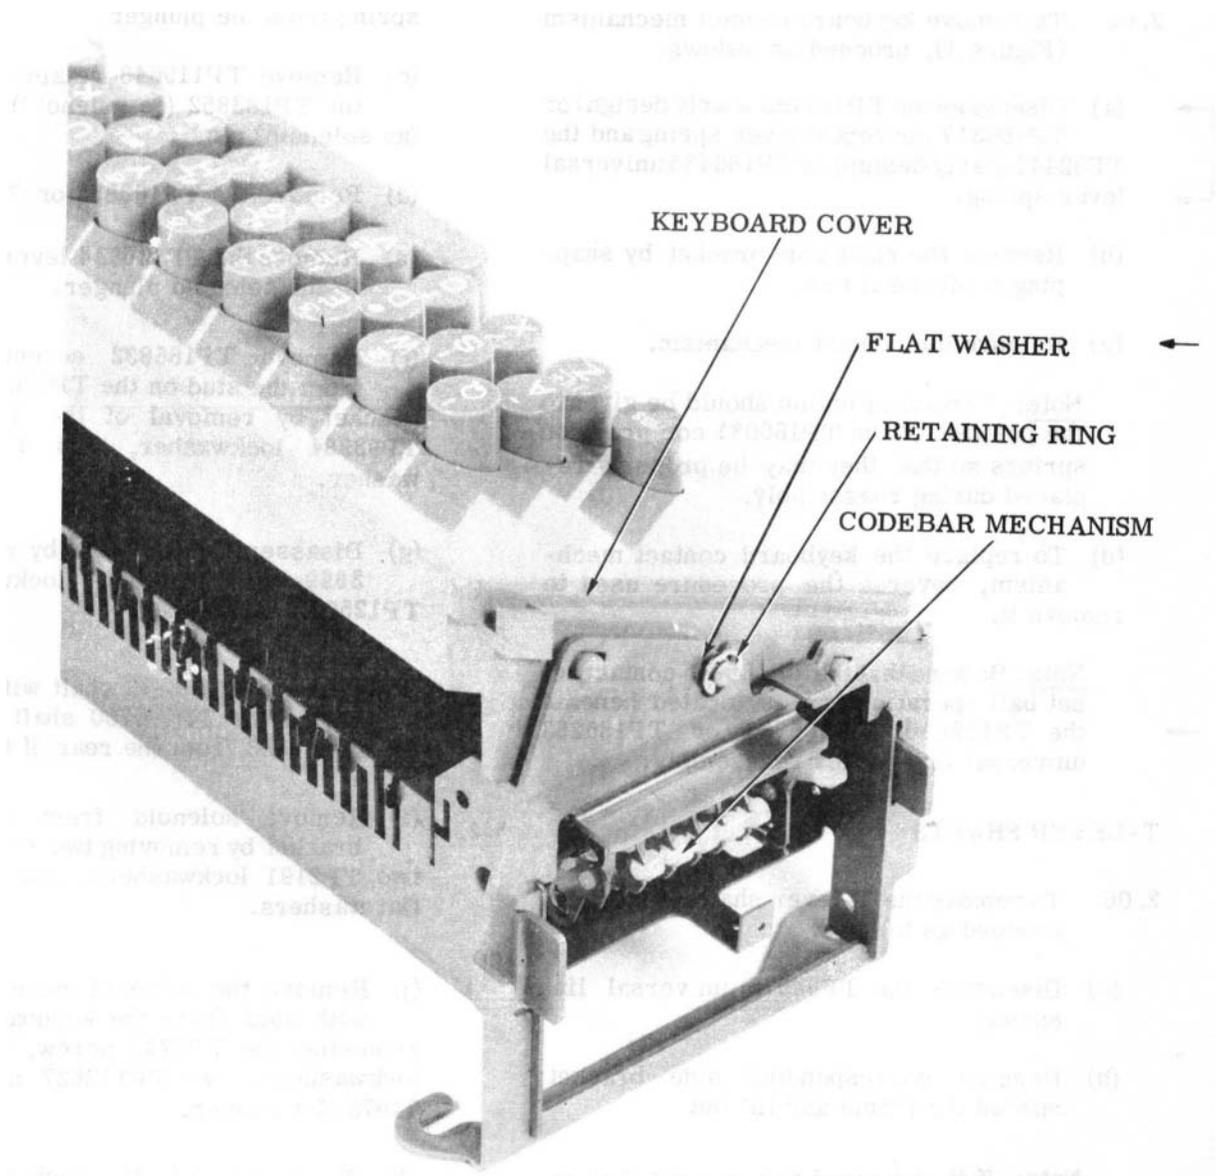

Figure 2 - Codebar Mechanism
2.01 To remove the keyboard cover (Figure 2), proceed as follows.